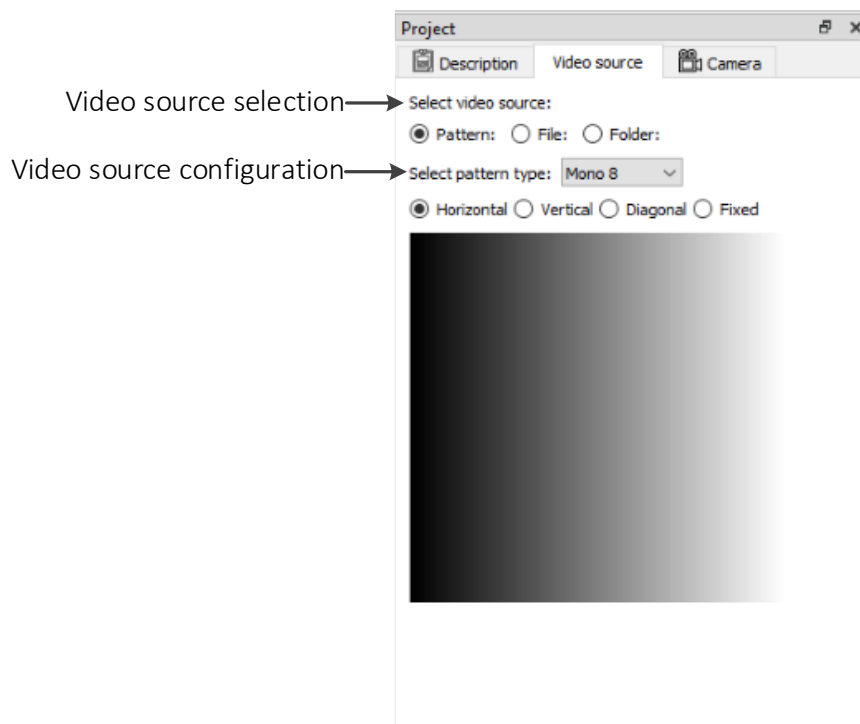

Figure 5 – Video source tab
2. The Video Source tab is used to specify and configure a video source for the current project, see Figure 5.